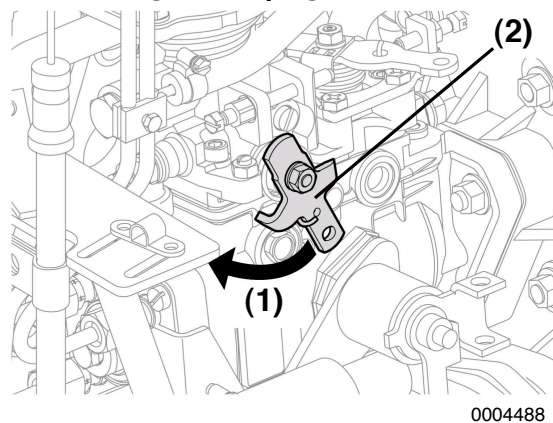

Figure 6
If the engine cannot be shut down by the STOP button on the panel, stop the engine by moving the stop lever (**Figure 6, (2)**) by hand to the left (**Figure 6, (1)**). The lever is attached to the fuel injection pump.